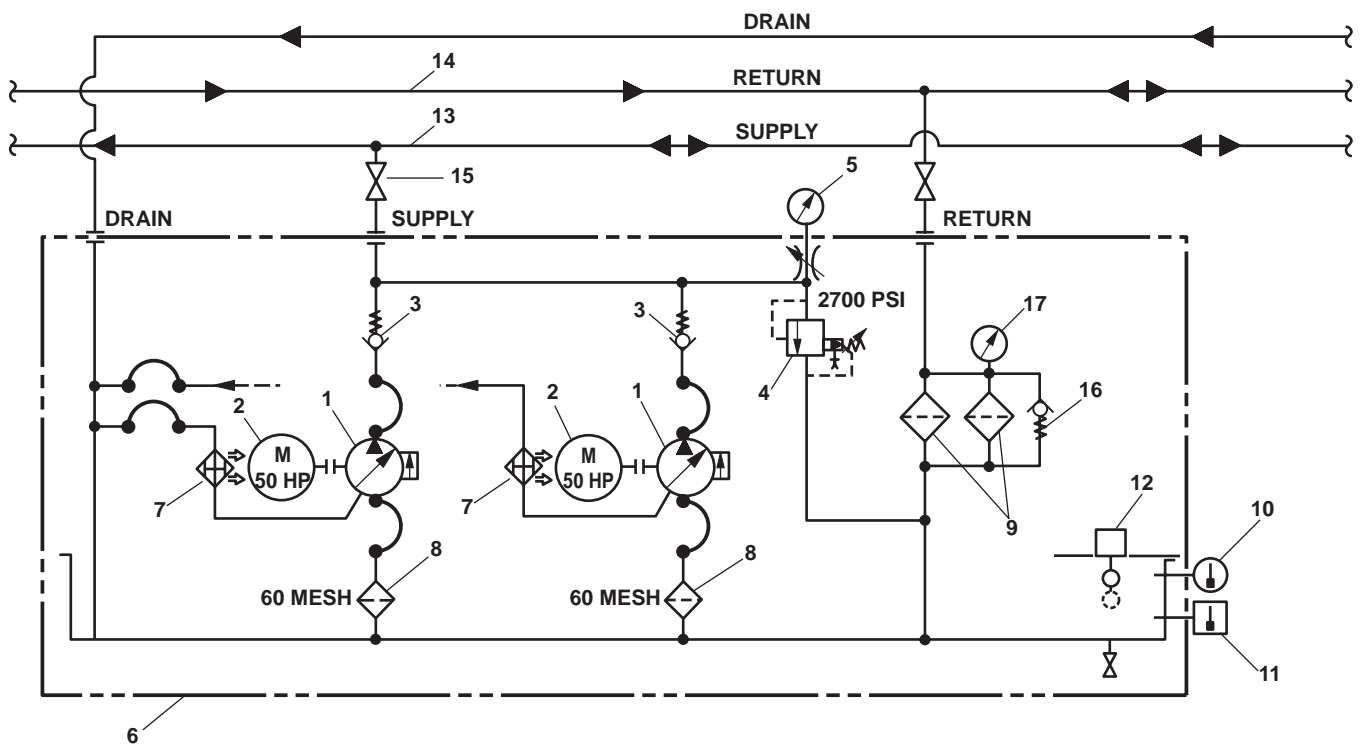

Figure 1. Central Hydraulic Power Unit Hydraulic Schematic
The local controls and indicators on the control box communicate the desired temperatures and functions for the chill room, freezer room, and thaw room. The local controls and indicators also indicate the current temperatures for the chill room, freezer room, and thaw room. Liquid refrigerant is supplied to the unit cooler tubes (figure 1) by the expansion valve (figure 1), which is actuated by both pressure and temperature of the refrigerant in the system. The refrigerant then flows through unit cooler tubes where it evaporates (figure 1). As the refrigerant evaporates, it absorbs heat from the air passing over the unit cooler tubes. After leaving the unit coolers, the gaseous refrigerant is routed to the compressor. On the down stroke of the compressor's (figure 1) piston, refrigerant vapor flows into the compressor (figures 1 and 2). The compressor (figure 1) compresses this refrigerant vapor, raising its temperature and pressure. The compressor (figure 1) discharges the now high-pressure, superheated refrigerant vapor to the condenser (figure 1), where it flows around the tubes through which raw water is being circulated. As the refrigerant vapor transfers its heat to the raw water, the temperature of the refrigerant vapor drops to the condensing point, turning the refrigerant vapor into liquid. The refrigerant, now in liquid form, is sub-cooled slightly below its condensing point. The refrigerant liquid flows on to the receiver (figure 1). The receiver (figure 1) acts as a temporary storage space and surge tank for the liquid refrigerant. The receiver also serves as a vapor seal to keep vapor out of the liquid line to the expansion valve. The refrigerant begins its cooling cycle again.
Two hydraulic pumps (figure 1, item 1) provide hydraulic pressure and flow to the central hydraulic system. Each pump is rated at 32 gal/min (121 L/min) at 2550 PSI (176 bar). Each pump is driven by its own 50 horsepower (37.3 kW) electric motor (figure 1, item 2). During normal operation, only one pump is operated. Under special circumstances, when hydraulic flow demands are high, both pumps may be operated. However, the hydraulic fluid temperature must be closely monitored during two-pump operation to prevent overheating of the system. Spring loaded check valves (figure 1, item 3) are provided at the outlet of each pump to prevent backflow through the idle pump when only one pump is in use. The spring loaded check valves are permanently set to OPEN at 7 PSI (0.5 bar) to provide minimal restriction to hydraulic flow.
A single system relief valve (figure 1, item 4) provides protection against overpressurization of the central hydraulic system. If the system pressure exceeds 2700 PSI (186 bar), the relief valve opens and vents the excess pressure back to the reservoir.
A system pressure gauge (figure 1, item 5) provides a direct indication of the system's operating pressure. The gauge reads from 0 to 5000 PSI (0 to 345 bar).
A 150 gallon (568 liter) reservoir (figure 1, item 6) stores the hydraulic fluid for the central hydraulic system. The reservoir also provides a mounting location for most of the central HPU's components. The central hydraulic system's fluid is cooled by dissipating its heat through the walls of the reservoir to the air in the engine room. Hydraulic fluid coolers (figure 1, item 7) are provided for the hydraulic pump drain fluid. These hydraulic fluid to air coolers are mounted inboard of the electric motors.
Suction strainers (figure 1, item 8) are provided at the inlet for each hydraulic pump (figure 1, item 1) to remove large particulate matter from the hydraulic fluid before it enters the hydraulic pump. Return filters (figure 1, item 9) are also provided for the system. The return filters are rated at 10 microns and remove small particulate matter from the hydraulic fluid as it is returned to the reservoir.
A 0-250 °F (-17 to 121 °C) temperature gauge (figure 1, item 10) is provided to monitor hydraulic fluid temperature in the reservoir. The temperature gauge is supplemented by a 180 °F (82 °C) high temperature cutoff switch (figure 1, item 11). When the hydraulic fluid temperature exceeds 180 °F (82 °C), the cutoff switch illuminates the HIGH OIL TEMP lamp, sounds an alarm, and secures power to the hydraulic pumps' electric motors (figure 1, item 2). The central hydraulic system is also protected by a low level switch (figure 1, item 12). This switch indicates either FULL or LOW for the reservoir fluid level. When the hydraulic fluid level reaches the LOW mark (98 gallons (371 liters)), the switch illuminates the LOW OIL LEVEL lamp, sounds an alarm, and secures the power to the hydraulic pump's electric motors.
When the operator powers up one or both hydraulic pumps, power is sent to the electric motor(s) (figure 1, item 2) for the selected hydraulic pump(s) (figure 1, item 1). Once the hydraulic pump is turning, it draws hydraulic fluid through the suction strainer (figure 1, item 7) and into the hydraulic pump. The hydraulic pump pressurizes the hydraulic fluid in response to the amount of restriction on the system. If the restriction is low (no load applied), system pressure is very low. If the restriction is high (load applied), the system pressure will vary in response to the load. The pressurized hydraulic fluid exits the hydraulic pump and flows through the supply piping (figure 1, item 13) to the downstream components (capstan, anchor windlass, deck crane, and tow pins), where the hydraulic pressure and flow are transformed into physical work. Hydraulic fluid exiting the downstream components returns to the reservoir (figure 1, item 6) through the return piping (figure 1, item 14) and the return filters (figure 1, item 9).
If the restriction is extraordinarily high due to an overloaded downstream component or a closed cutoff valve (figure 1, item 15), the system relief valve opens at 2700 PSI (186 bar) to vent hydraulic fluid back to the reservoir (figure 1, item 6). This prevents catastrophic damage to the hydraulic pump, piping, and other hydraulic components.
The return filters (figure 1, item 9) are provided with a bypass valve (figure 1, item 16) and a restriction gauge (figure 1, item 17). If the filter restriction rises above 25 PSI (1.7 bar), the bypass valve opens, permitting hydraulic fluid to bypass the filters and to return to the reservoir (figure 1, item 6). Because permitting unfiltered hydraulic fluid to return to the reservoir opens the door to eventual system failure, the restriction gauge is provided to enable timely return filter changes. Performing regular filter changes helps to ensure that the central hydraulic system and its components enjoy a long service life.